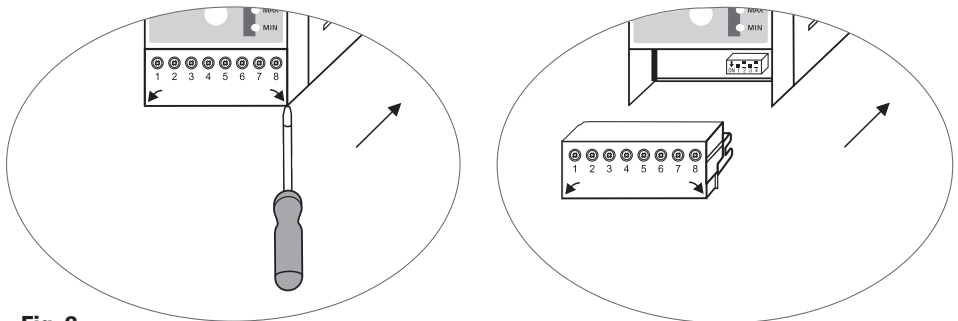

Fig. 6
- Remove the lower and upper terminal strips **Fig. 6**